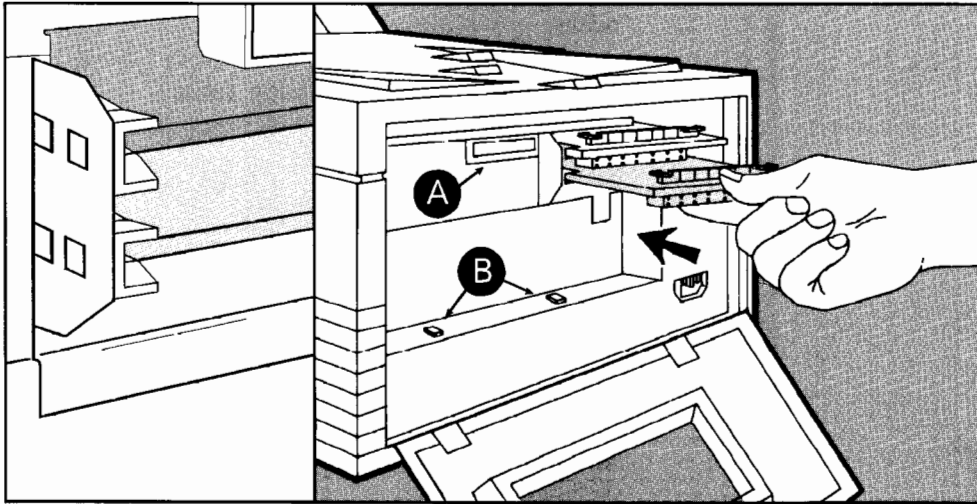

Figure F-7. Install the Second Board
10. If you are installing a second board, insert it below the first board in the same manner (see figure F-7). The second board connects to the previously installed board. Be sure to **firmly** push against the green plastic area to properly seat the board pin connector. When the board is fully seated, the green tabs on the memory board do not move.
11. Replace the interface plate by first inserting the ribbon-cable pin connector into connector slot **A** (Figure F-7). Ensure that the ribbon cable lies flat and is not twisted. Be sure the pin connector is **firmly** seated. Next, put the tabs into the slots **B** and rotate the plate into its upright position.